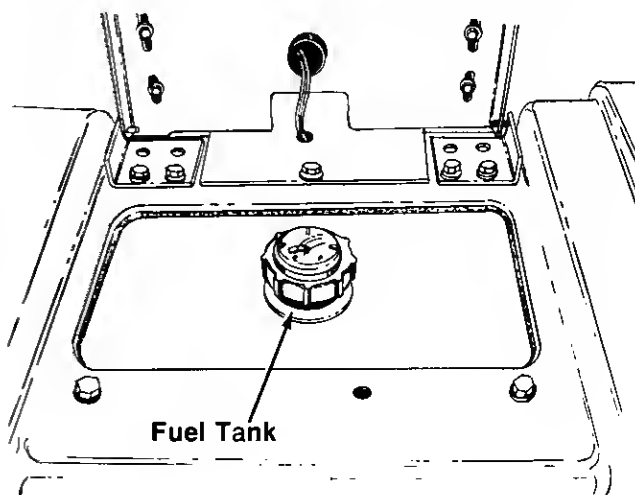

FIGURE 7.
The fuel tank is located under the seat. See figure 7.
3. Fill the fuel tank with clean, fresh, regular or unleaded gasoline. Refer to figure 7. Tank is located under the seat.